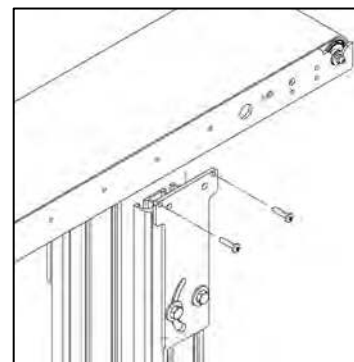

Figure 3
② Install the Stand
b. Line up the stand with the accessory holes in the side of the conveyor frame and use a Screw Gun with a Torx bit to fasten the stand to the frame (Figure 3).